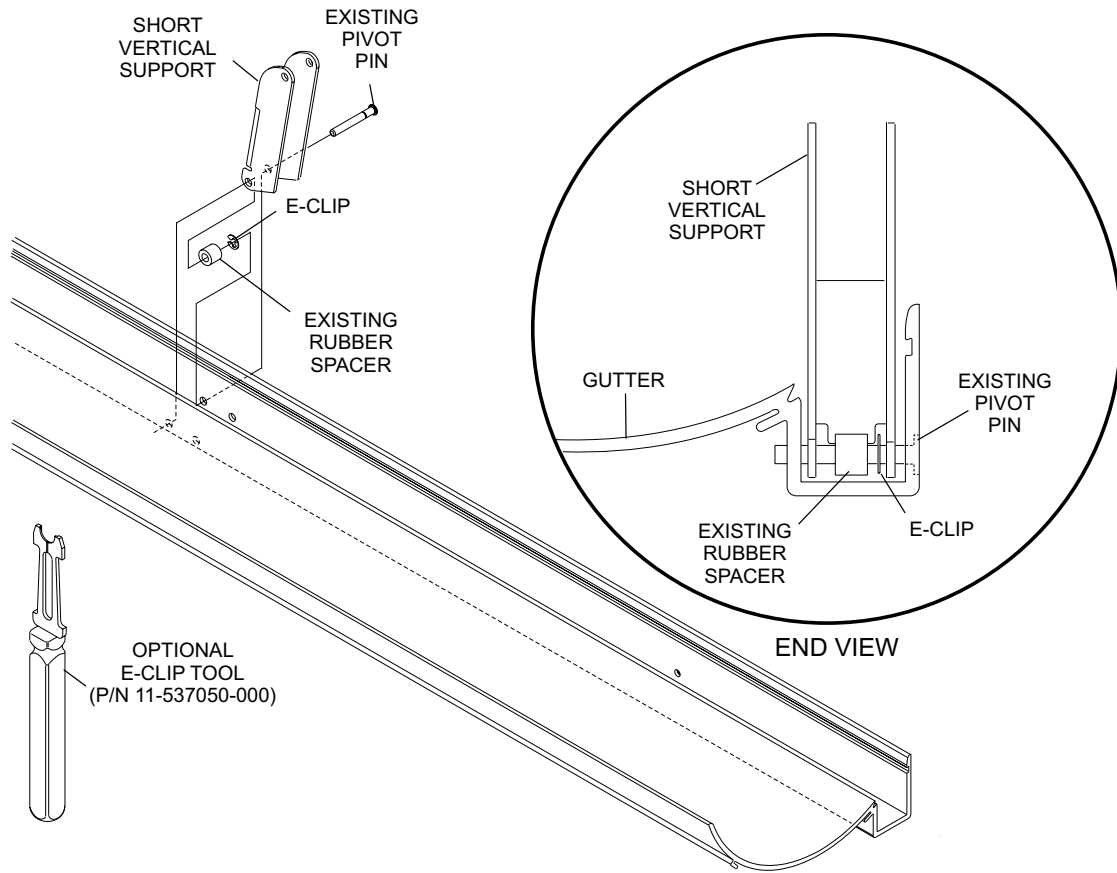

Figure 7
8. Install the new short vertical support (P/N 84-200455-000) to the gutter with existing pivot pin, existing rubber spacer and new E-clips (P/N 11-537050-000). Refer to *Figure 7*.